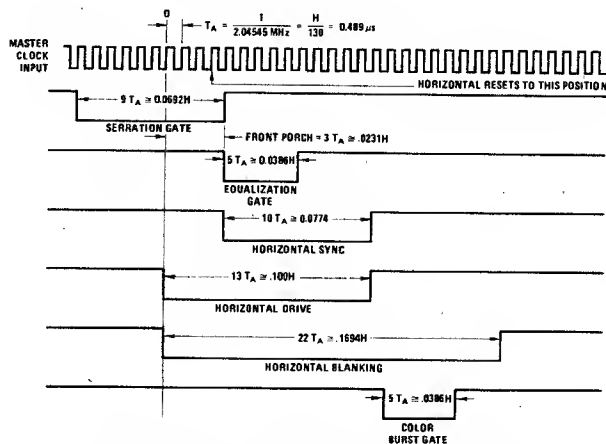

FIGURE 2. Horizontal Timing Master Clock = 2.04545 MHz
**Horizontal Reset** occurs for Logic "0," this resets the horizontal counter to a state shown in Figures 2 and 3.
serration pulse (eleven 0.5H time intervals from leading edge of *Vertical Blanking*). Refer to the reset table above. The horizontal divider will always be reset to a position which is 8 input clock pulses from the leading edge of the serration gate in the horizontal timing scheme (Figure 2 and 3). The generator is reset to the odd field (field one). The *Field Index* output pulse occurs once each odd field at the leading edge of *Vertical Blanking*. It can be used to reset, or "gen-lock," similar sync generator chips by connecting it to their *Vertical* and *Horizontal Reset* inputs.